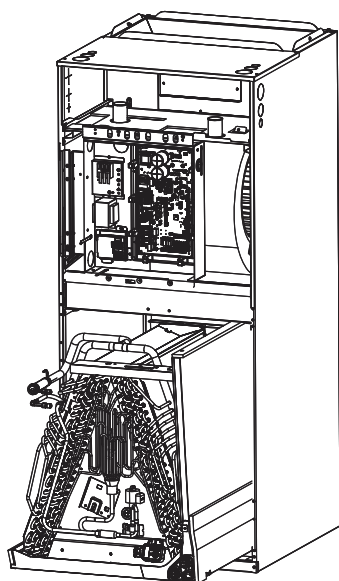

Fig. 3
(3) Extract the evaporator with the removed wirings. (Refer to Fig. 3)